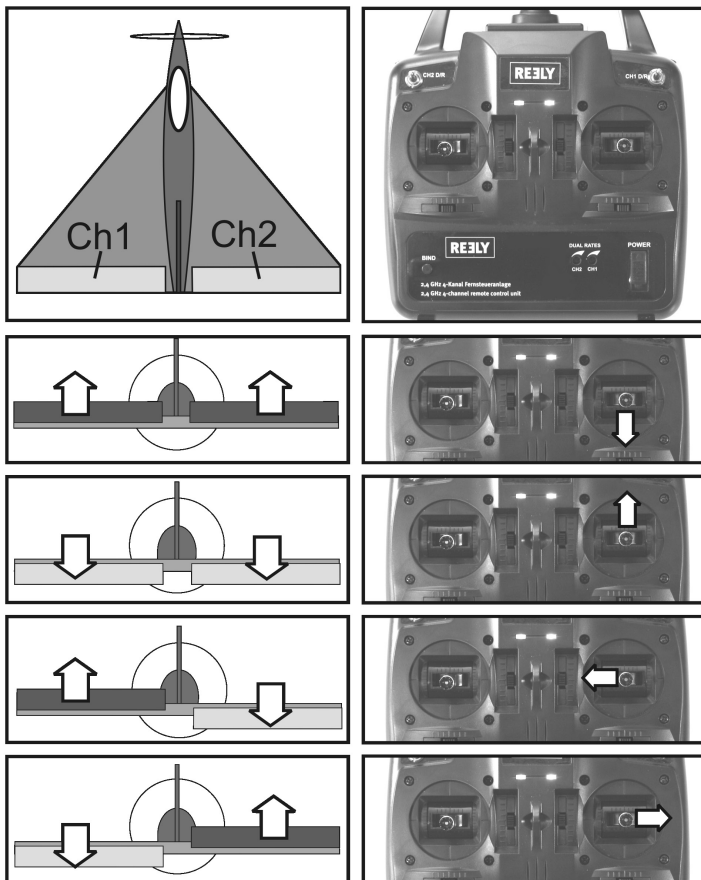

Figure 18
The servo of the left wing has to be connected to the receiver output CH1 and the servo of the right wing to the receiver output CH2. The deflections of the two rudder flaps have to be according to the figures in figure 18.
7. Then take the receiver into operation and check if the rudder flaps now deflect according to the illustration in figure 18 or 19.